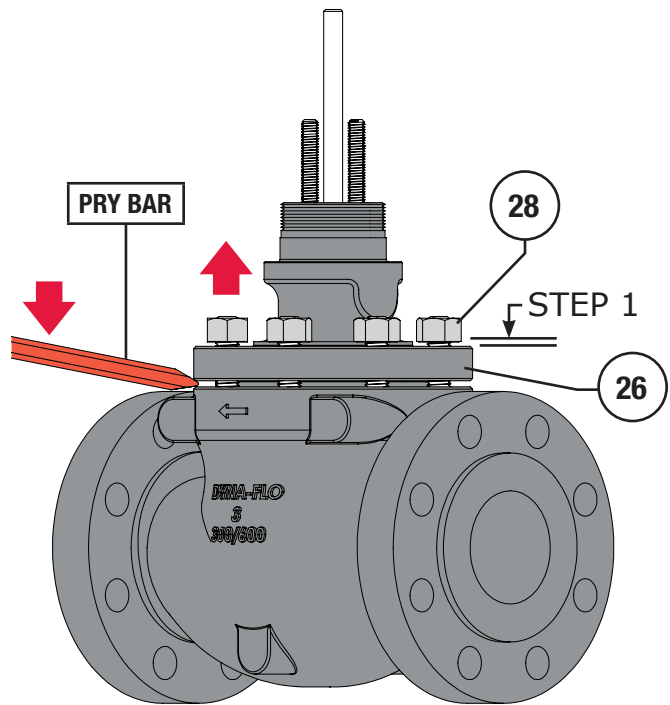

Figure 8 Bonnet Removal (Steps 1 & 2)
- 1 Loosen the bonnet nuts (Key 28) 1 full turn after contact between the nuts and the top surface of the bonnet (Key 26) has been broken. Do not remove the bonnet nuts until any trapped process pressure has been vented. Refer to Figure 8.
- 2 Break the contact between the valve body (Key 1) and the bonnet (Key 26), use a pry bar or blunt chisel to help with the separation if necessary. Refer to Figure 8.